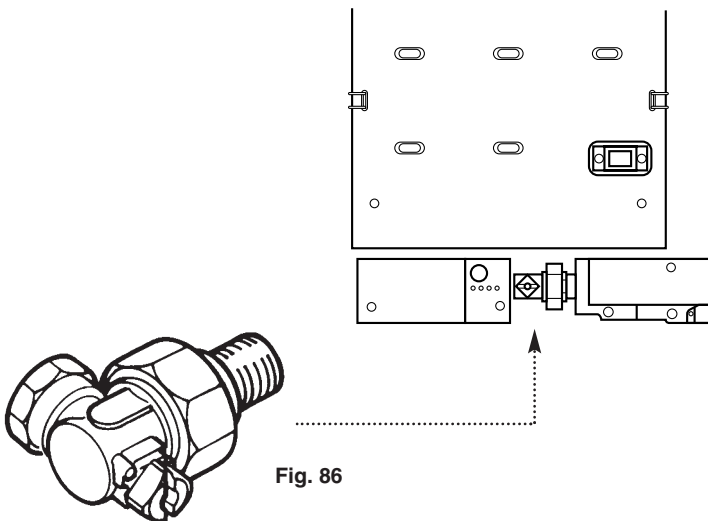

Fig. 86
1. Connection to the gas supply is RC $\frac{1}{2}$ ($\frac{1}{2}$ in BSPT internal) located at the rear of the gas cock (Fig. 86).